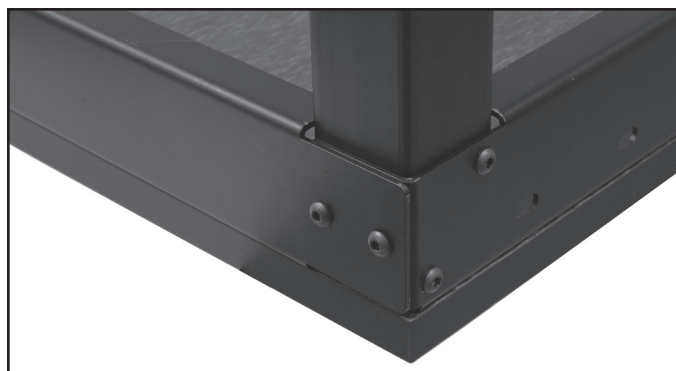

FIG. 3
4. Fully fastened leg is shown in Fig. 3.